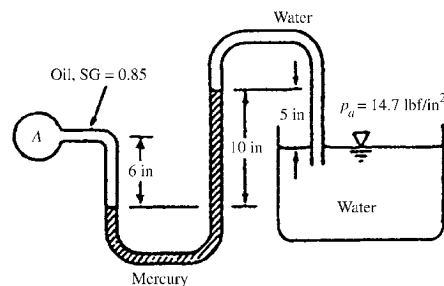

Fig. P2.41
**2.41** The system in Fig. P2.41 is at 20°C. Determine the pressure at point A in pounds per square foot.